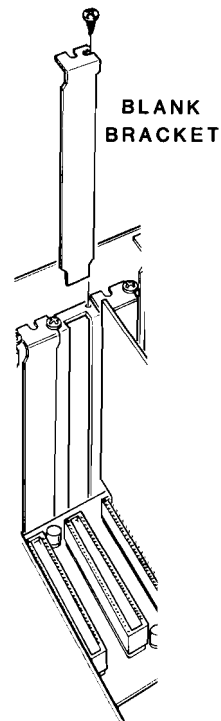

Figure 2.7. Blank Bracket
- Remove and save the blank bracket screw (Figure 2.7) from the blank bracket and then remove and discard the blank bracket.